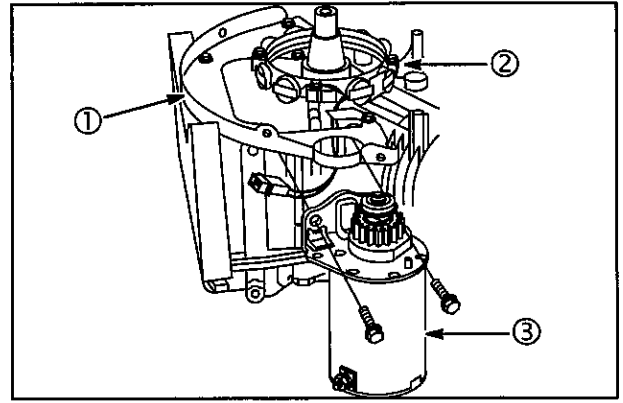

Fig. 15
1. Install back plate (1), Fig. 15. Torque screws to **65 in. lbs. (7 Nm)**.
2. Install alternator (2). Torque screws to **20 in. lbs. (2 Nm)**.